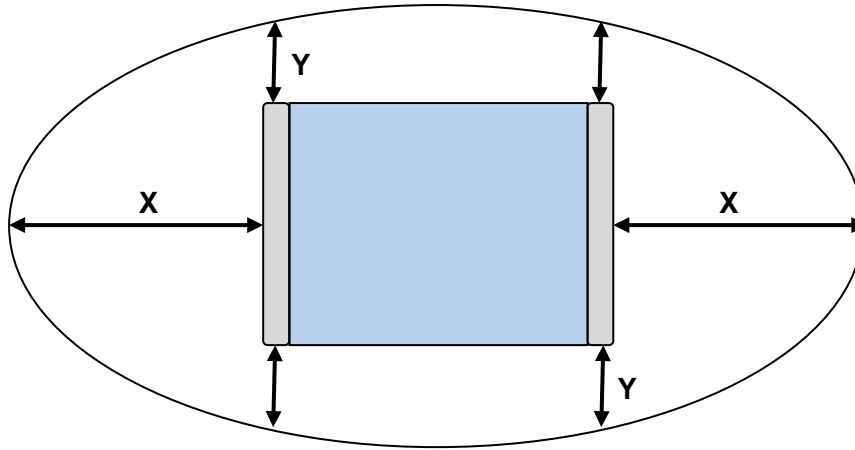

Fig. 11: Top view, capture area outside of the antenna gate
**Note that the entire reading area of the antenna gate is larger than the three-dimensional area shown in the drawing (Fig. 11). This means there are tag orientations in which the tag can be detected outside the reading area.**